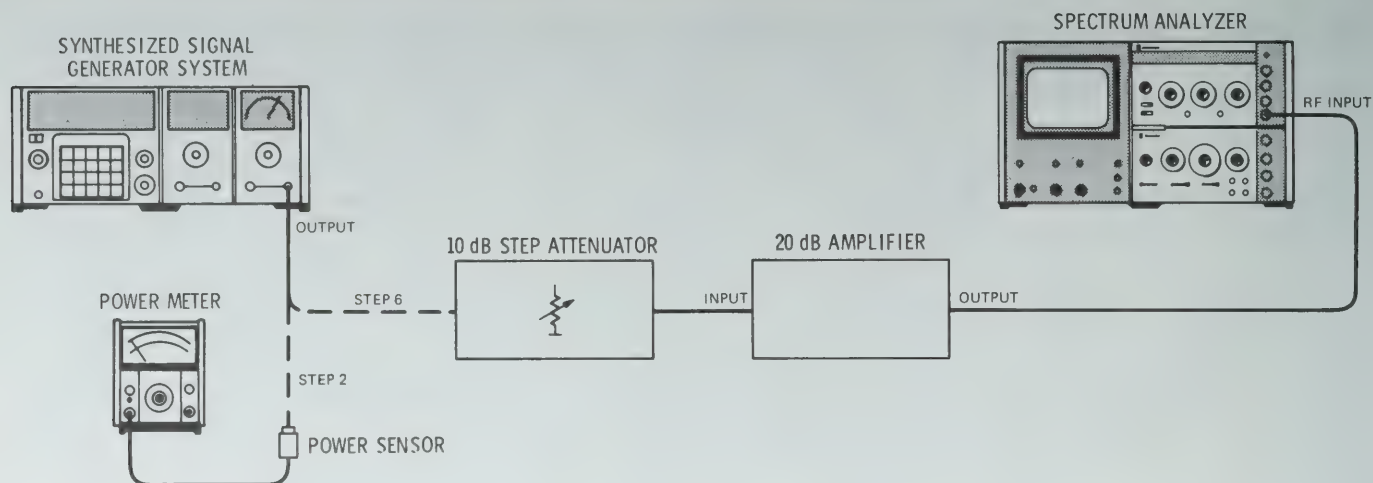

Figure 4-4B. Output Accuracy Test Setup (Alternate Procedure)
6. Connect the equipment as shown in Figure 4-4B.